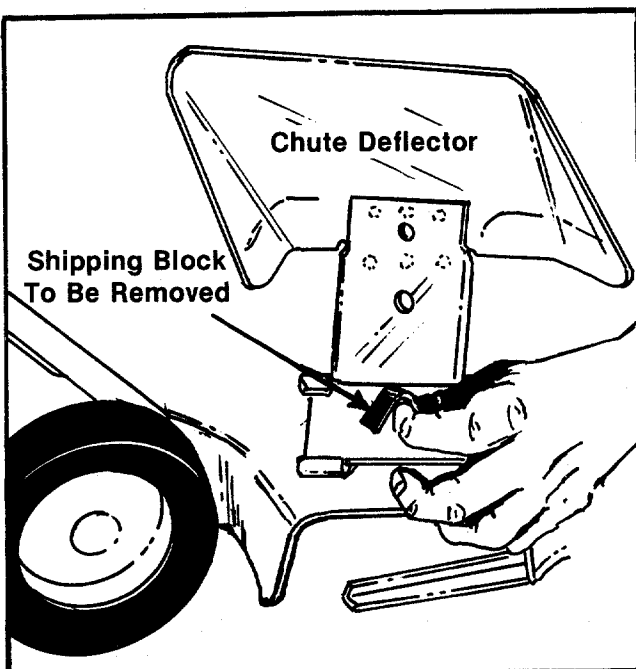

FIGURE 6.
- ← Please note that the chute deflector on your mower is in an upright position. It is held in that position by a shipping block. This block is used for shipping purposes only. It must be removed and discarded before your mower is put into operation. See figure 6.